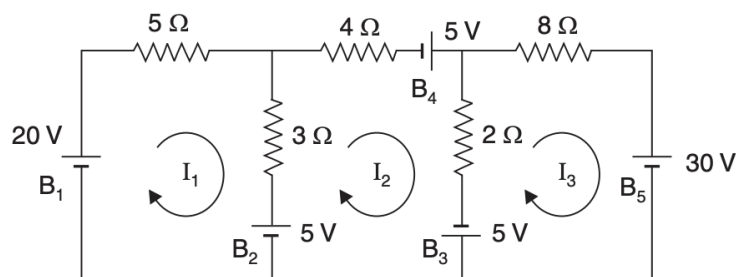

Fig. 2.2
2. Determine the current supplied by each battery in the circuit shown in Fig. 2.2.